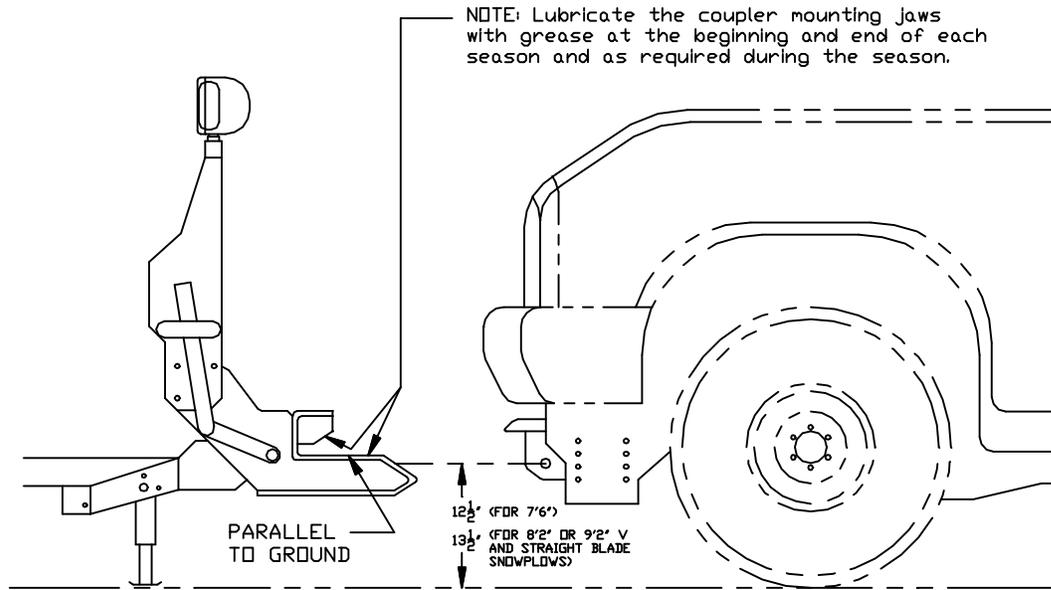

Figure 4
2. Position PUSH BEAM SUPPORT PLATES (62A & 62B) to the front frame rails directly behind the bumper mounting brackets. Using $\frac{1}{2}$ " – 13 x 1-1/4" Carriage Bolts (D) and $\frac{1}{2}$ " – 13 Self-Locking Nuts (B) bolt PUSH BEAM SUPPORT PLATES (62A & 62B) in place.
3. Bolt UPPER SUPPORT BRACKETS (62C & 62D) to the top two holes of PUSH BEAM SUPPORT PLATES (62A & 62B) using $\frac{1}{2}$ " - 13 x 1 1/2" Hex Head Bolts (A) and $\frac{1}{2}$ " – 13 Self-Locking Nuts (B). Transfer punch the two lower holes on PUSH BEAM SUPPORT PLATES (62A & 62B) and UPPER SUPPORT BRACKETS (62C & 62D) and drill 9/16" diameter holes into the frame rail. Secure with $\frac{1}{2}$ " - 13 x 1 1/2" Hex Head Bolts (A) and $\frac{1}{2}$ " – 13 Self-Locking Nuts (B).
4. Bolt PUSH BEAM (62) in place using $\frac{1}{2}$ " - 13 x 1 1/2" Hex Head Bolts (A), $\frac{1}{2}$ " - 13 x 2" Hex Head Bolts (C) and $\frac{1}{2}$ " – 13 Self-Locking Nuts (B) provided (a total of 4 nuts and bolts per end). The 2" bolts are for the back of PUSH BEAM (62) where the bolt must also pass through ANGLE BRACKETS (75A & 75B). NOTE: the proper height adjustment for PUSH BEAM (62) is approximately 15-1/2" from the ground to the center of the PUSH BEAM (62) pin-receiving hole (see Fig. 4).